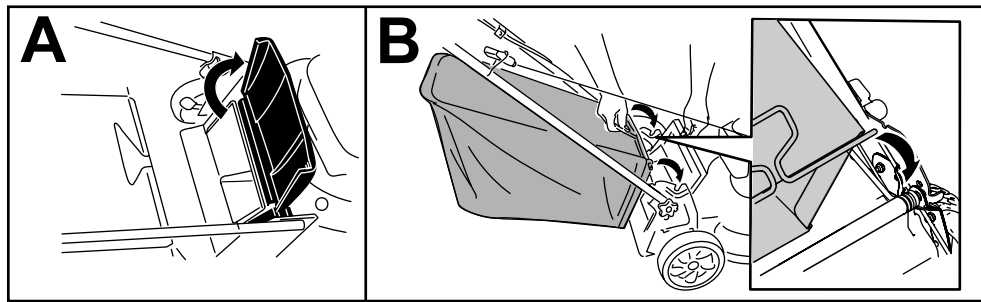

Figure 21
1. Raise and hold up the rear deflector (A of Figure 21).
2. Install the grass bag, ensuring that the pins on the bag rest in the notches on the handle (B of Figure 21).